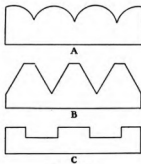

FIGURE 113
*Shaped Facing* (Figure 113). — The shaped facing is used around necklines, the bottoms of sleeves, etc. The outer edge of the facing may be straight or have a design, and this facing when finished always appears on the right side of the garment. If there is no pattern for the designed facing, make as for